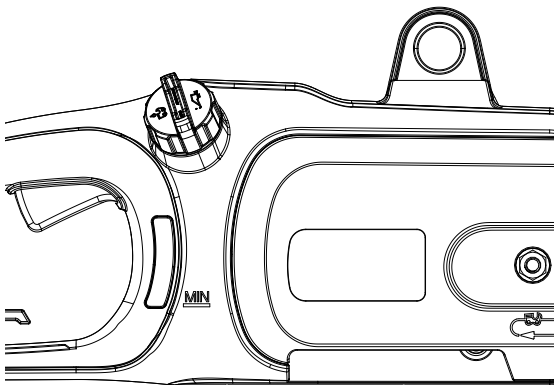

Fig. 4
1. Remove the oil cap (Fig. 4). Fill the reservoir with bar and chain oil (SAE30) until the oil level has reached full capacity.